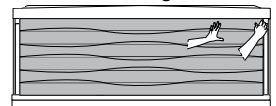

Figure 13.3b
- Remove the center panel. Grab either the top left or top right side of the front center panel, Figure 13.3b. Gently pull the cabinet forward to unsnap it from the holding clips. Make sure to support the cabinet as you work your way down the side to completely unclip it from the hot tub frame. Once completely unclipped, tilt slightly forward and lift up to remove it from the hot tub frame. Place the panel in a safe location to prevent from damaging it.